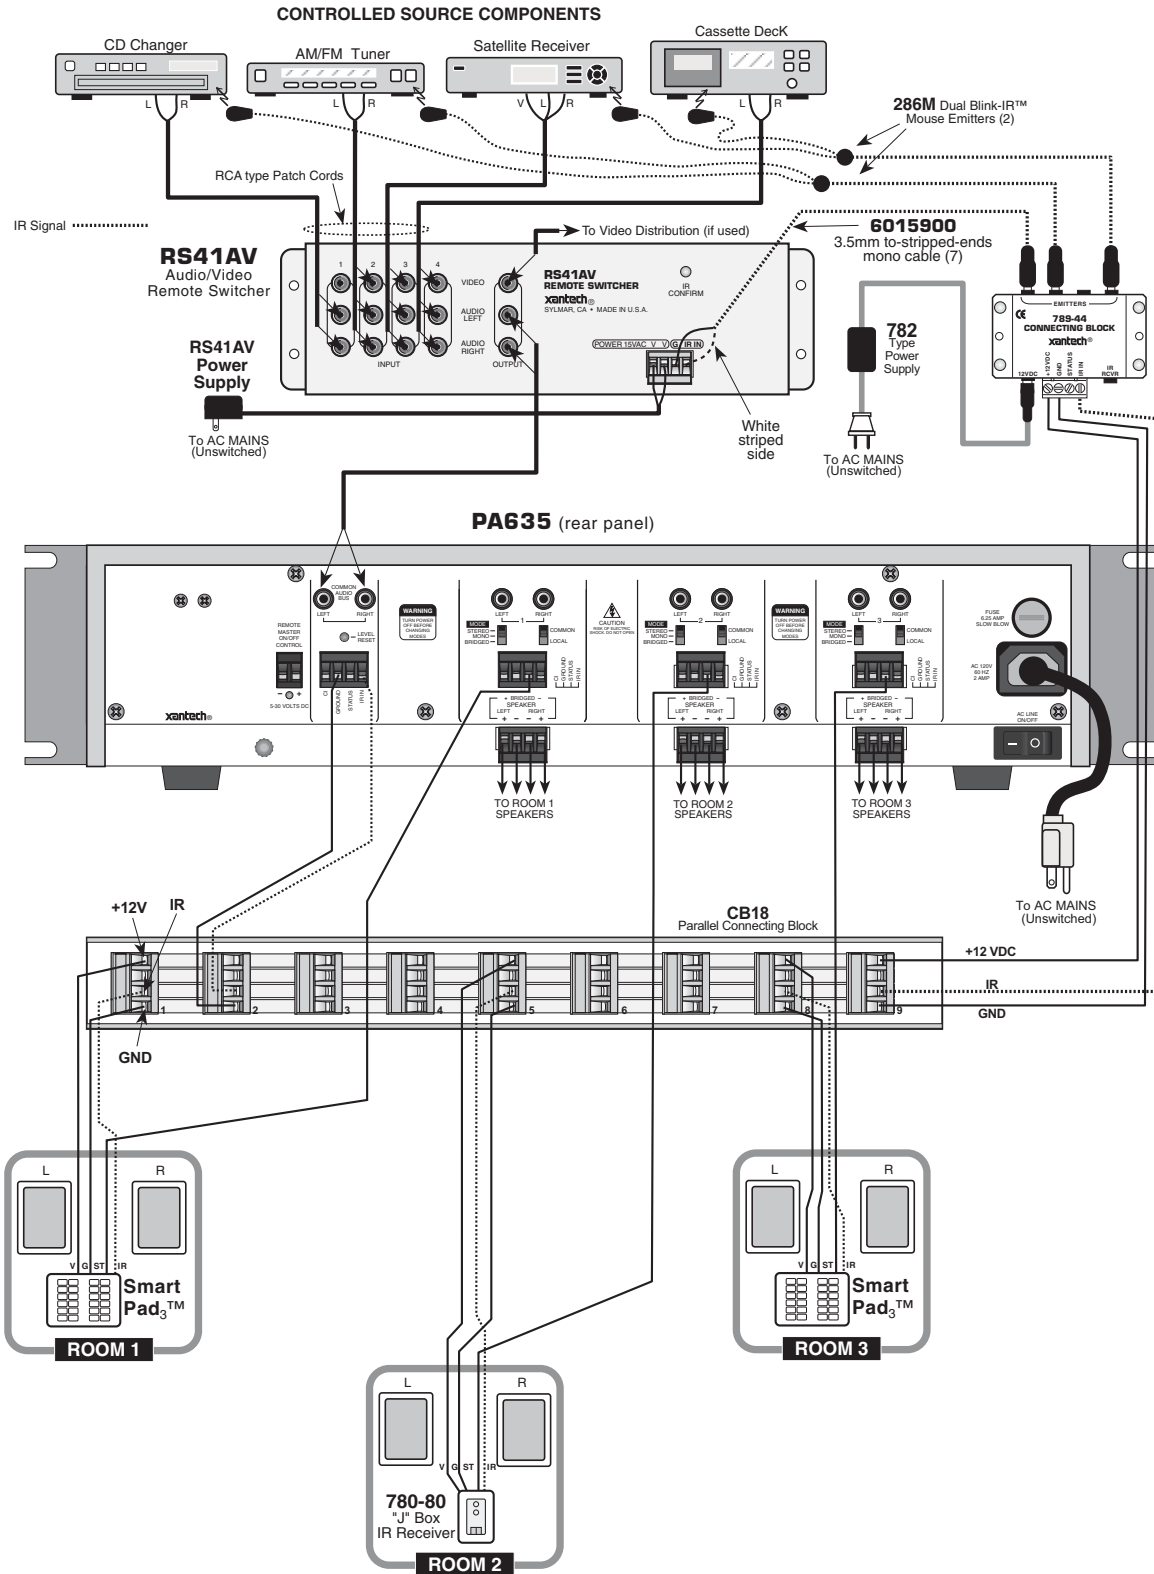
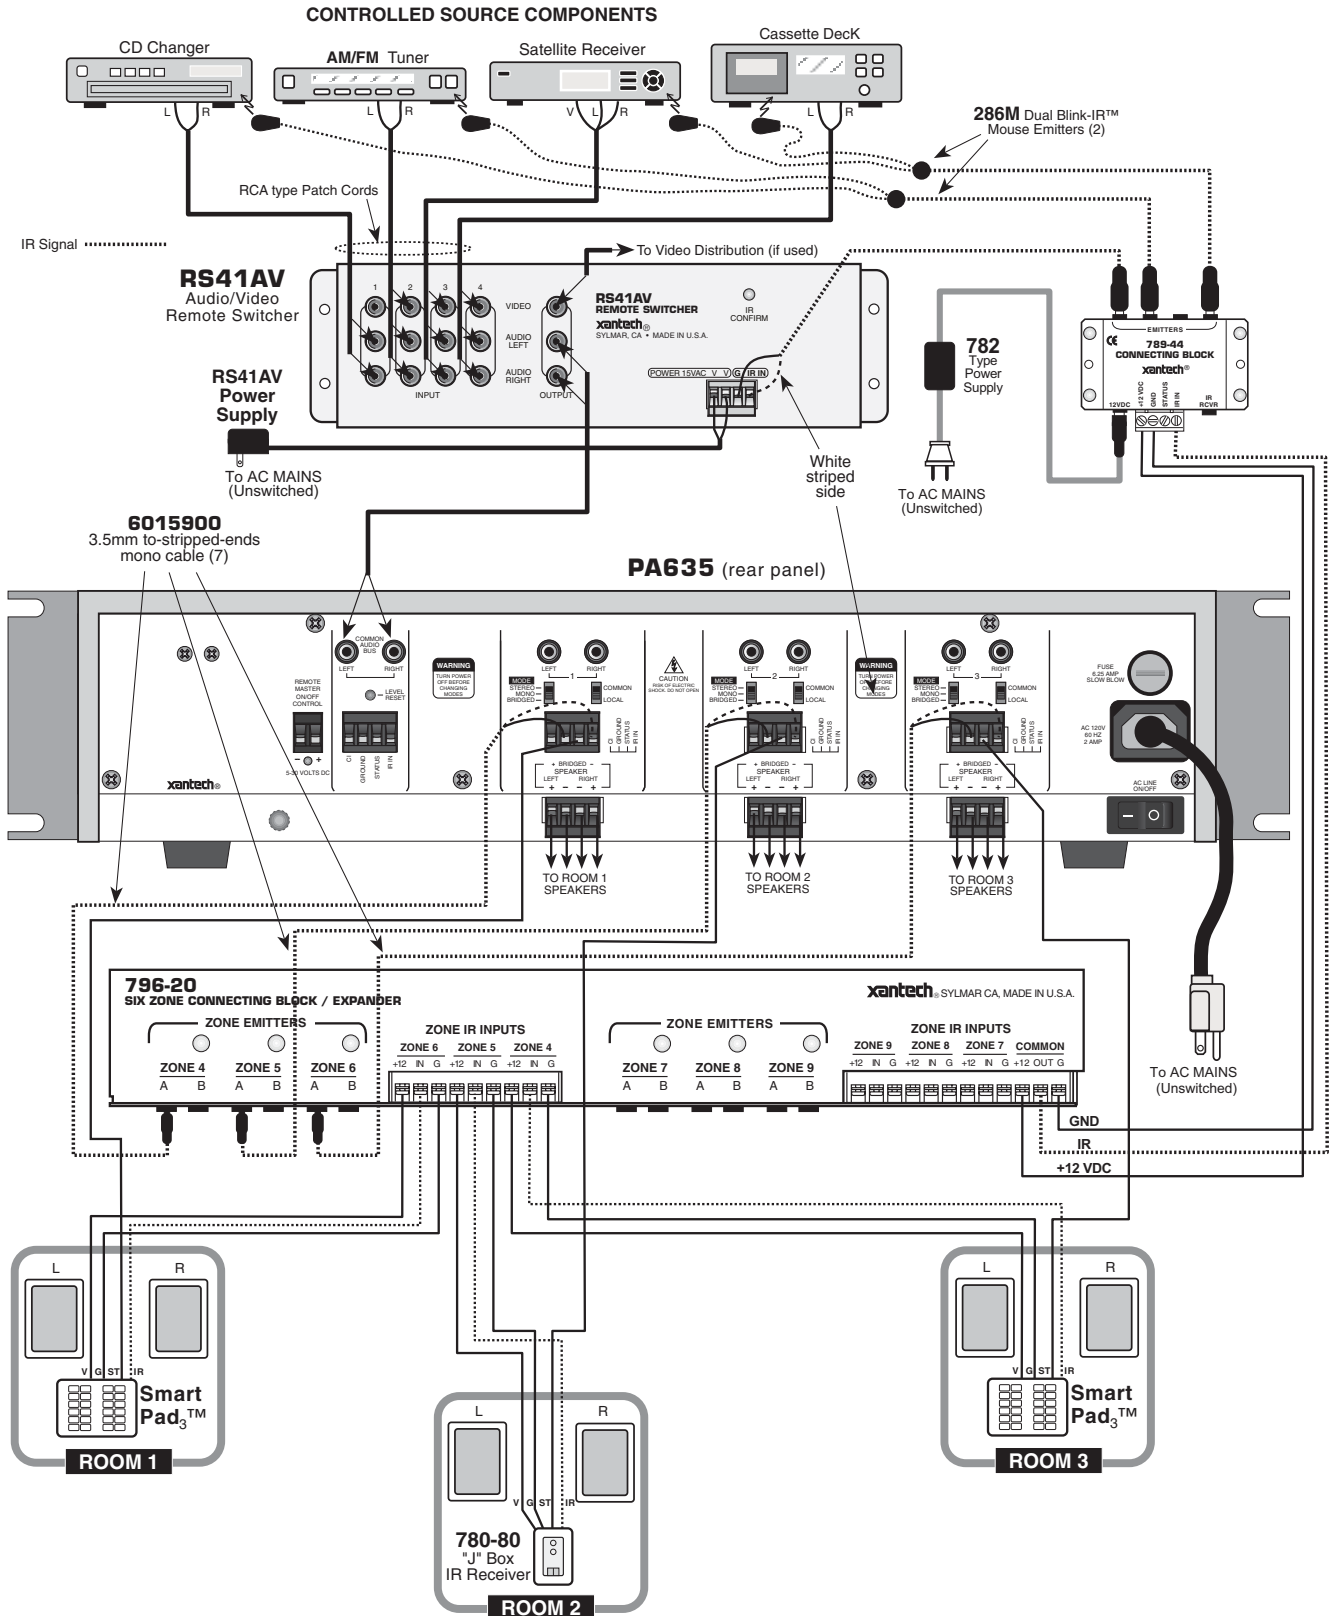

Figure 8 – Basic PA635 and RS41AV System – Requires Room-Dedicated Remotes
Figure 9 – Basic PA635, RS41AV and 796-20 System – Uses Non-Dedicated Room Remotes
A typical system using a low cost approach is shown in Fig. 8. It does require that a dedicated remote be used in each room that has an IR receiver - that is, remote commands for Volume, etc., are specific for each room. The system is configured as follows:
4. The Common IR is taken from the #2 connector on the CB18 (connection to any of the other connectors would also work) and run to the Common IR IN on the PA635 with a 2-conductor lead. Refer to Fig. 8.
If you wish to carry remotes that have the same codes from room-to-room, that is, Non-Dedicated Remotes, use the IR System shown in Fig. 9.
A typical system of this type is shown in Fig. 9, where each remote room has a Dedicated IR path going to the PA635 amplifier pair that controls it. The IR bus is not connected in common as it is in Fig. 8. It eliminates the need for dedicated remotes, allowing you to carry the same remote(s) from room-to-room - that is, remote commands for Volume, Mute, etc., will work in any room from the same remote.
This system is similar in many respects to the previous system (Fig. 8), but differs as follows:
CAUTION: The output voltage of some adapters, such as the 781RG, drops off too slowly to provide a quick turnoff for the PA635. Therefore, when using any adapter (12 VDC max), always connect the included 220 Ohm 1 Watt resistor in shunt with the REMOTE MASTER ON/OFF CONTROL terminals as shown in Fig. 9. Failure to do so may result in blowing of the power line fuse (item #10, Fig. 3).
CAUTION: When making this connection, do not use the included 220 Ohm resistor! Refer also to CAUTION notes, Fig. 9.
| The PA635 blew its fuse (item #10, Fig. 3) as power was turned OFF using an adapter driving the REMOTE MASTER ON/OFF CONTROL terminals. | The supplied 220 Ohm resistor may not have been connected in shunt with the REMOTE MASTER ON/OFF CONTROL terminals. Be sure this resistor is connected and that the leads are making secure contact within the screw terminals of the connector. Refer to CAUTION notes, Fig. 9 |